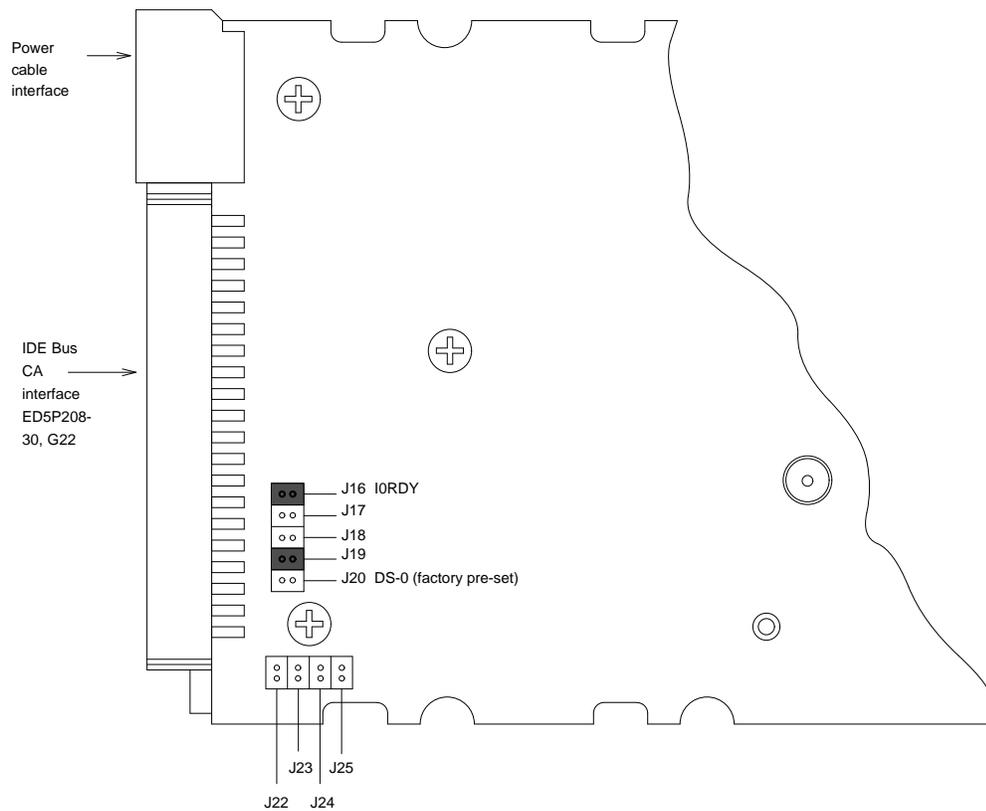

Figure 10-10. IDE Disk Drive Jumper Selection and Verification
- **IDE disk drive** — Verify jumper J19 Drive Select 1 (DS-1) as shown in Figure 10-10.
The manufacturer presets the jumper J20 for Drive Select 0 (DS-0) as the Master Disk. When installing a second disk, relocate the jumper J20 to jumper J19, Drive Select 1 (DS-1) as the second disk as shown in Figure 10-10.